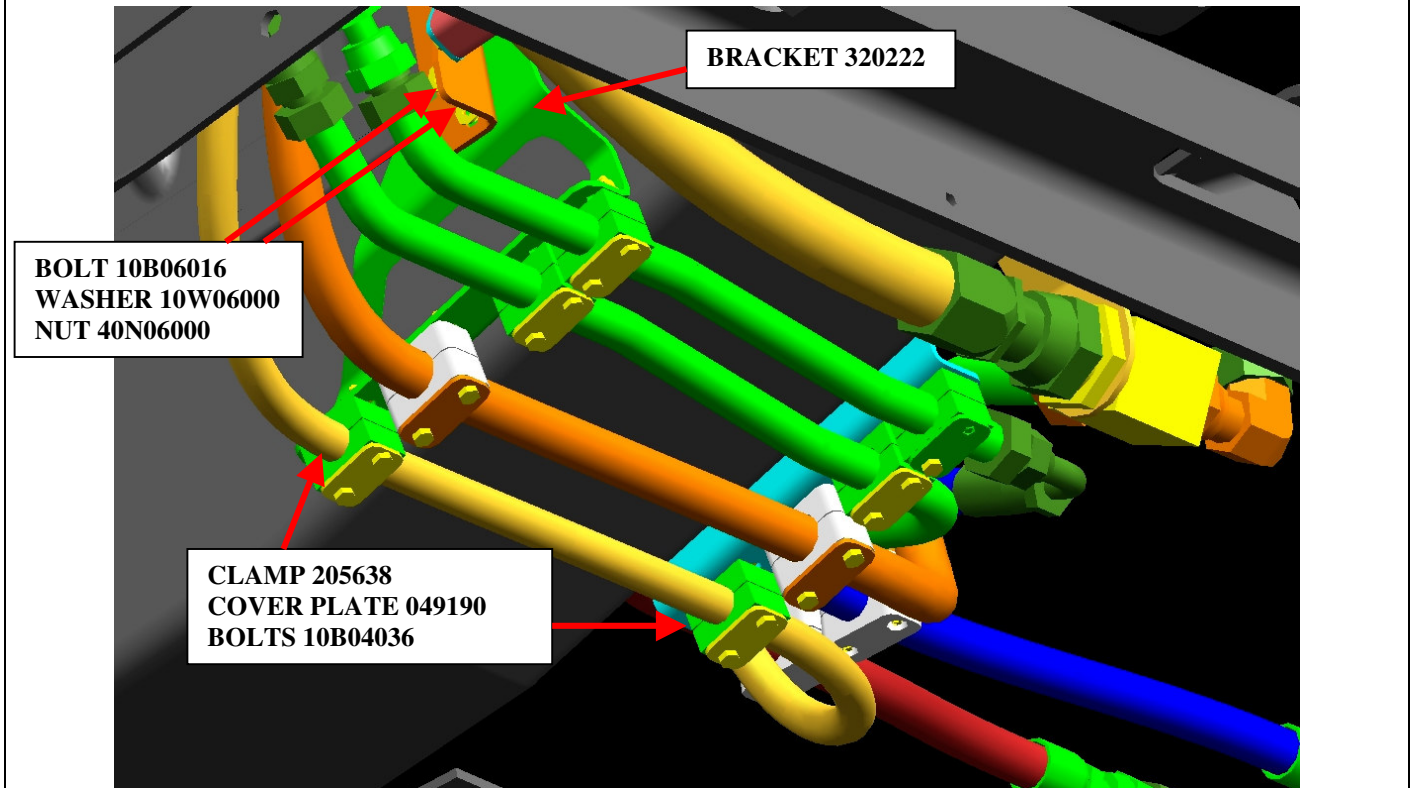

Figure 3: P/S Lines Bracket
12. Insert the staff clamps and hardware for the P/S line as shown in the Figure 3 above.